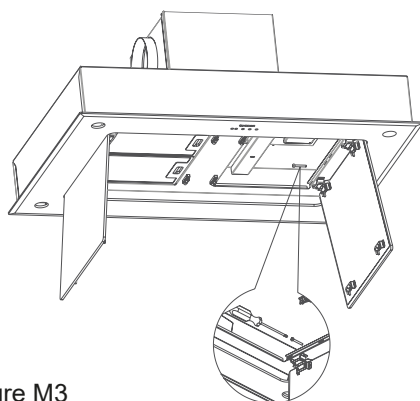

Figure M3
- For installation in the ceiling, lift the hood up to the ceiling, connect the exhaust duct firmly to the air vents of the motor box and the power plug to the power supply, and then the hood further upwards in the ceiling. Screw these on now from the inside (fig. M3) through the lateral plate to the prepared wooden frames.